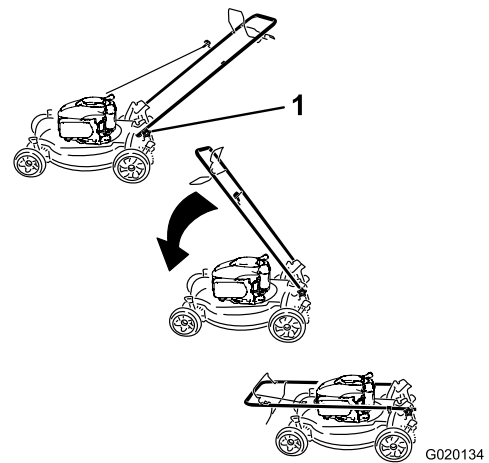

Figure 29
1. Loosen the handle knobs until you can move the handle freely (Figure 29).
1. Handle knob (2)
2. Move the handle forward as shown in Figure 29.